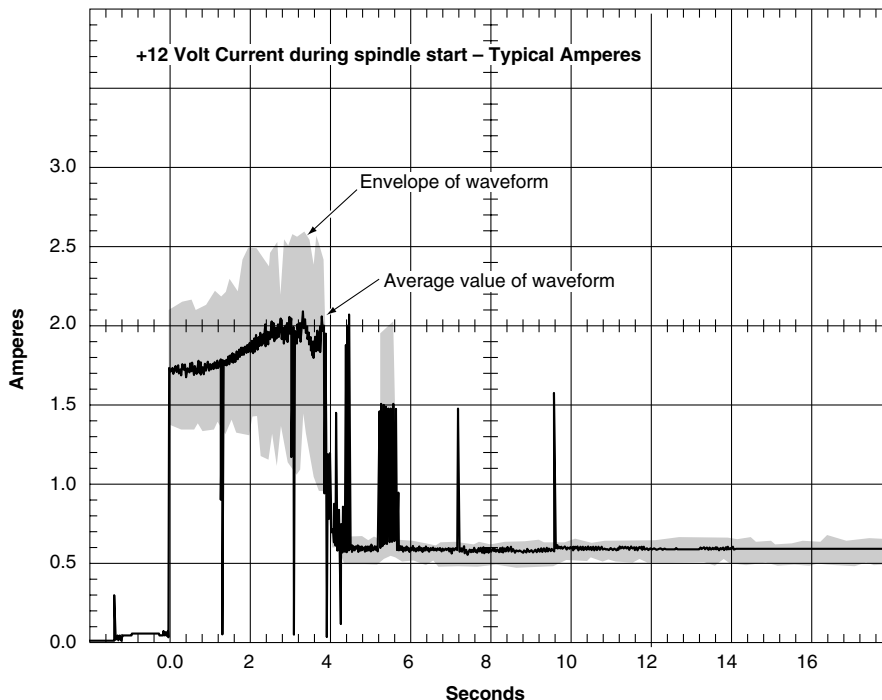

Figure 3. Typical ST373405 drive +12 V current profile
- [3] See +12 V current profile in Figure 3.
Figures 3 through 6 identify the drive +12 V current profiles. The current during the various times is as shown: